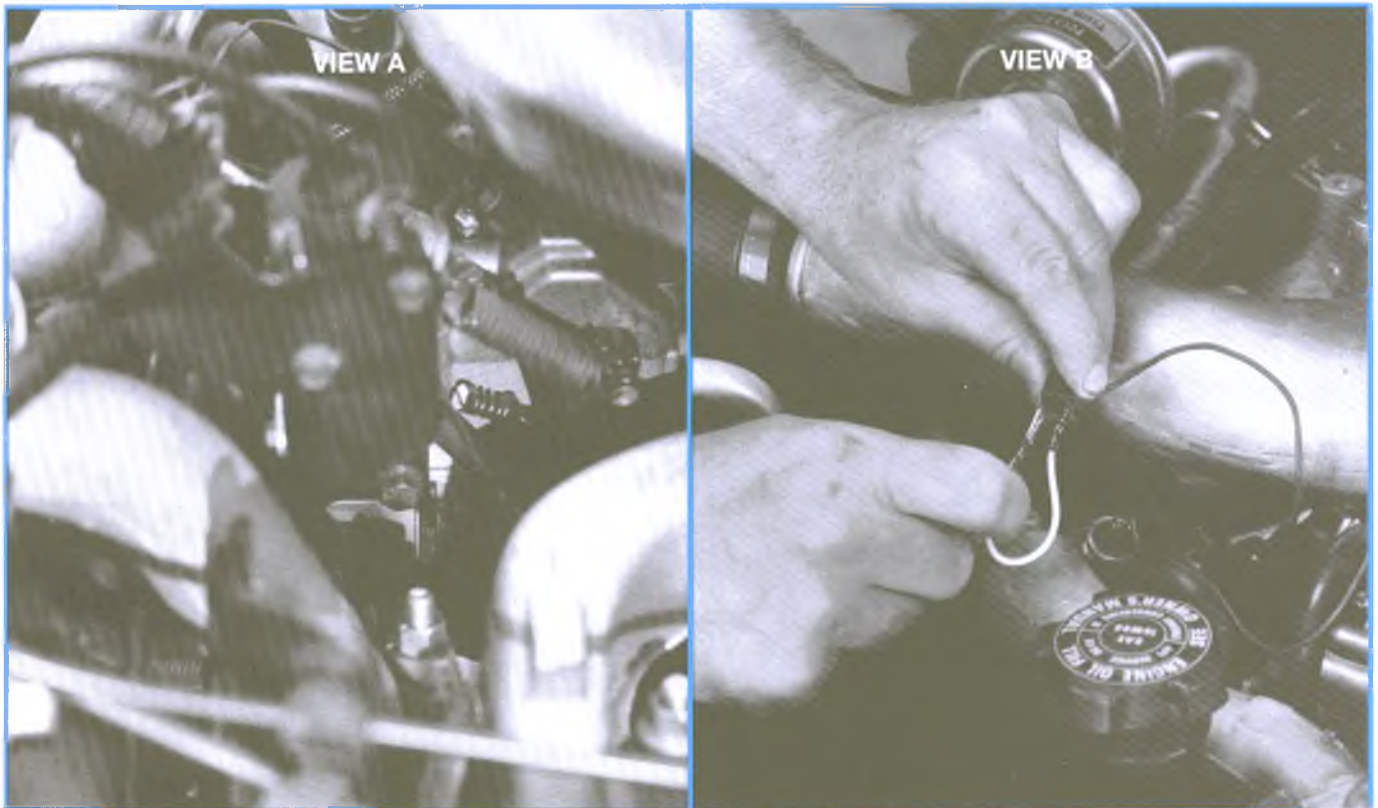

Figure 7-80, Idle Speed Adjustment (1)
5. Adjust the low idle speed screw on the side of the injection pump according to the specifications on the vehicle emissions label (refer to Figure 7-80, view A).
6. Remove the electrical connector for the fast idle/cold advance temperature switch and jumper its wiring harness terminals with an insulated wire (see Figure 7-80, view B).